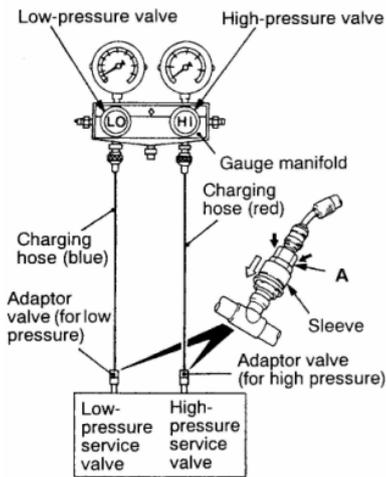

Fig. 18-10
**10 PERFORMANCE TEST (Fig. 18-10, 18-11, 18-12)**